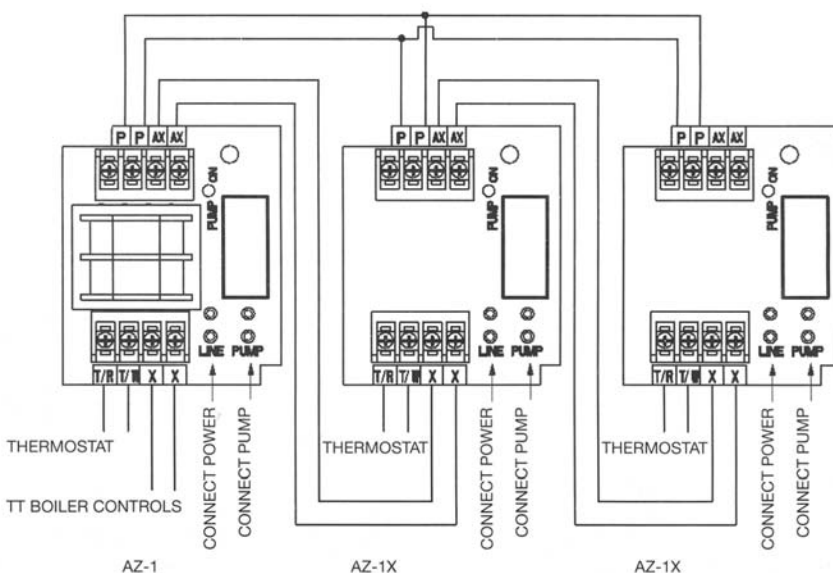

Figure 3: AZ-1 with AZ-1X Wiring Scheme
8. Run the wires for the following connections through the grommet in the plastic base and connect to the appropriate TR/TW terminals. Connect the terminals designated as P/P in the AZ-1 and AZ-1X modules. Connect the X/X terminals in the AZ-1X to the AX/AX terminals in the AZ-1. As an alternative, the X/X terminals in the AZ-1X can be wired directly to the appropriate 24-volt boiler controls (see figures 3 and 4). Do not use the holes in the metal conduit box for 24 volt control wiring.